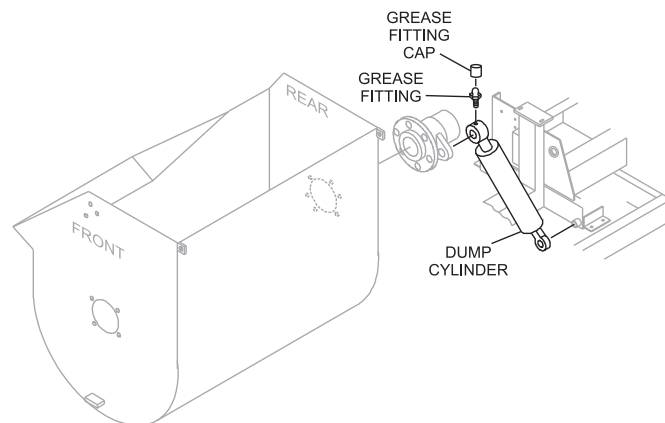

Figure 14. Grease Fittings (Dump Cylinder)
1. If your unit has hydraulic dump capability, check the zerk grease fitting at the top of the dump cylinder (Figure 14). This grease fitting lubricates the hydraulic dumping mechanism.